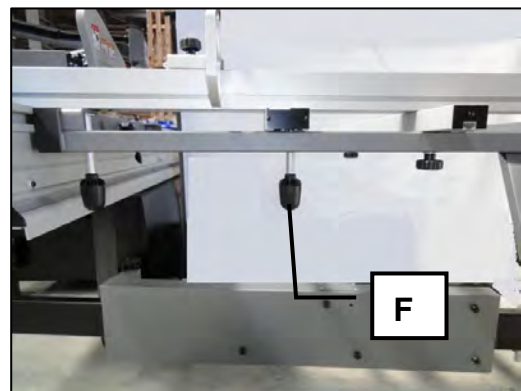

Figure 4-7.4b
1. Loosen knob **D**(Fig. 4-7.4a)& **F**(Fig. 4-7.4b) to change position of crosscut fence
3. After adjust it to your desired angle, tighten the knob **F**(Fig. 4-7.4b).